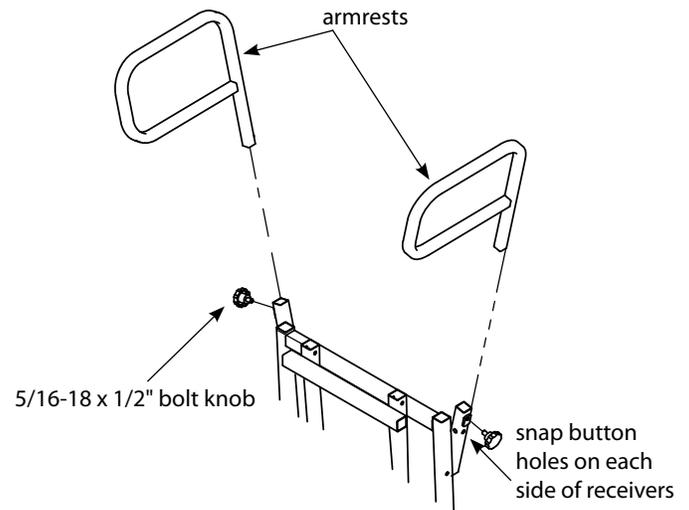

Figure 3
4. Insert the removable/pivoting armrests (CXR26) into each armrest receiver on the seat post by pressing snap button inward and snapping button into holes of receivers. **SEE FIGURE 3.** Thread bolt knob into threaded portion of receiver to tighten up armrest to help prevent movement/noise.